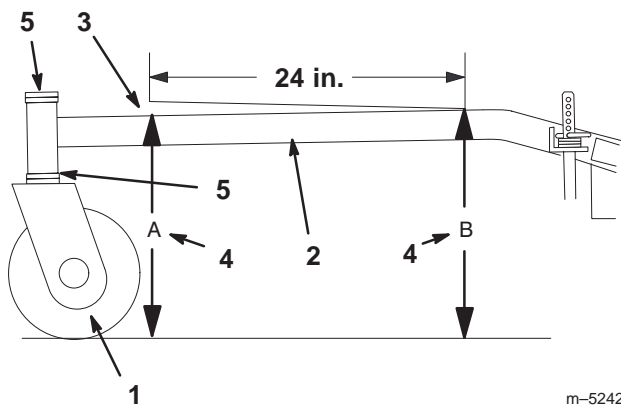

Figure 47
1. Measure out 24 inches on the carrier frame (Fig. 47).
2. Measure carrier frame height at location “A” (Fig. 47).
3. Measure carrier frame height at location “B” (Fig. 47).
4. The height at location “A” must be a 1/4–3/8 in. lower than location “B” (Fig. 47).
5. If the carrier frame is not correct, move caster spacers to make it a 1/4–3/8 in. pitch (Fig. 47). Move spacers from top or bottom to make the correct pitch.